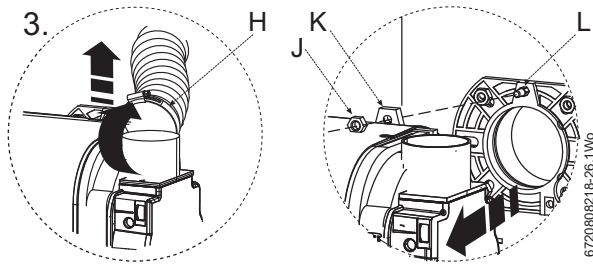

Fig. 31
3. Unscrew to loosen the retaining ring (H) that secures the flexible air supply tube to the burner (I) and pull the flexible air supply tube free from the burner (see figure 31).